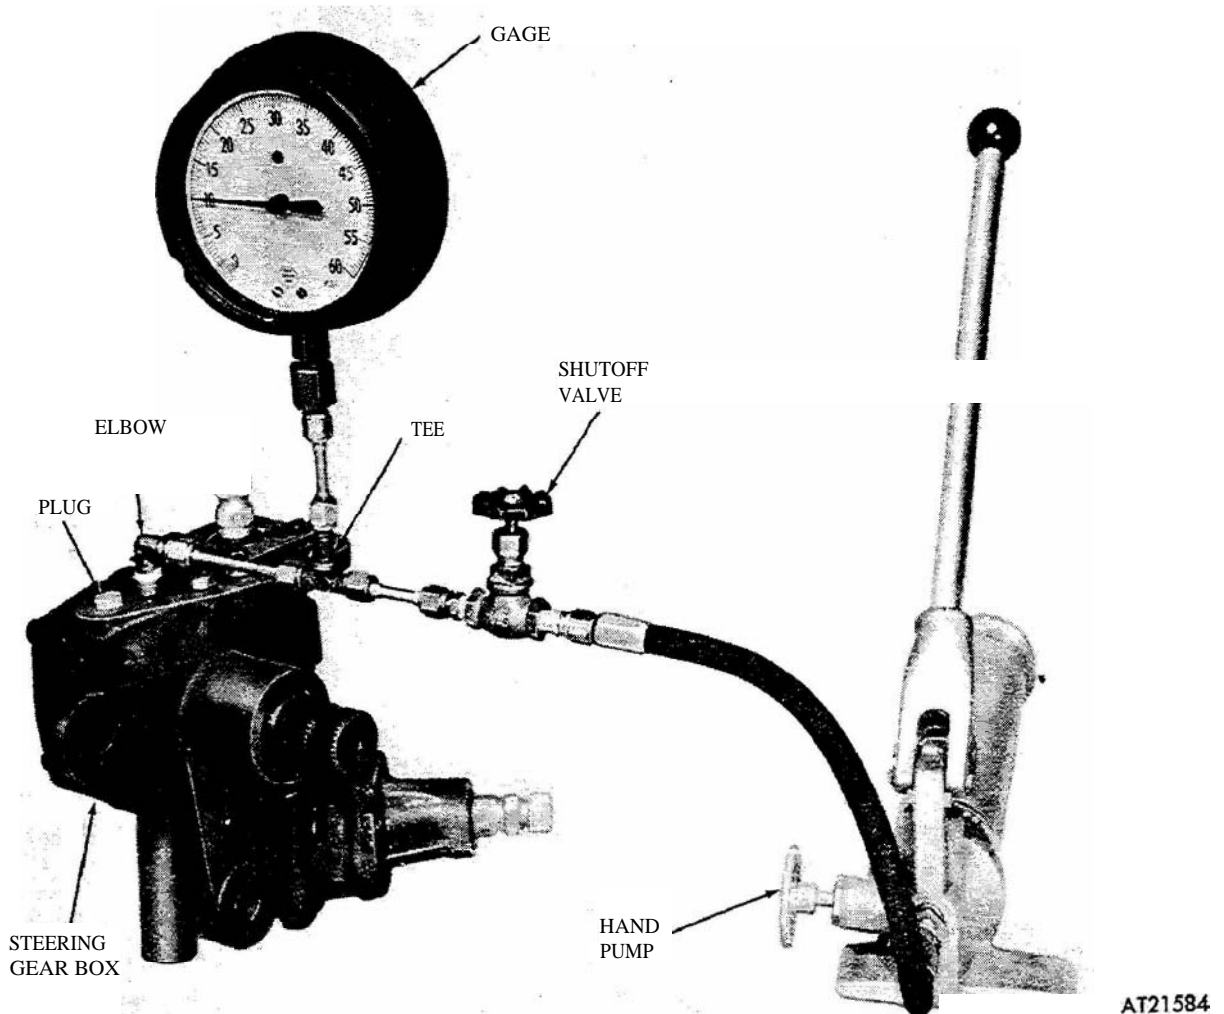

Figure 3-211. Pressure testing front steering gear box.
(1) Using suitable plugs, plug three openings in housing (fig. 3-211).